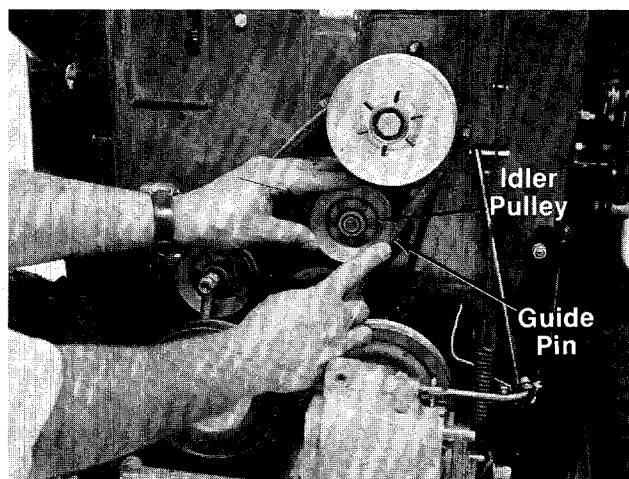

FIGURE 43.
10. When sliding the idler pulley on the idler bracket, be certain the belt is between the pulley and guide pin. See figure 43.